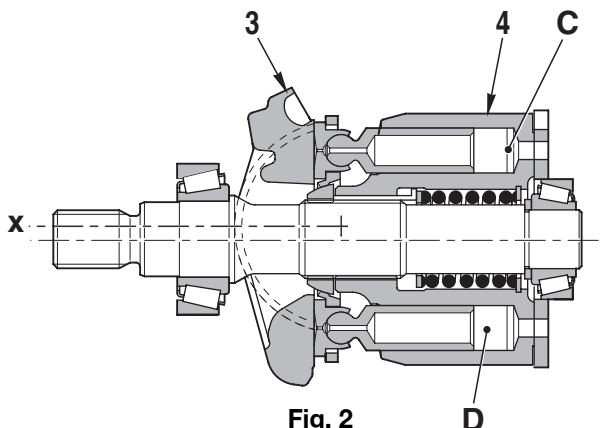

Fig. 2
3 - When the axis X of the swash plate (3) is parallel to the axis of the cylinder block (4) (swash plate angle « α »=0), the difference between the volumes C and D inside the cylinder block (6) is zero and no oil is pumped (Fig. 2).